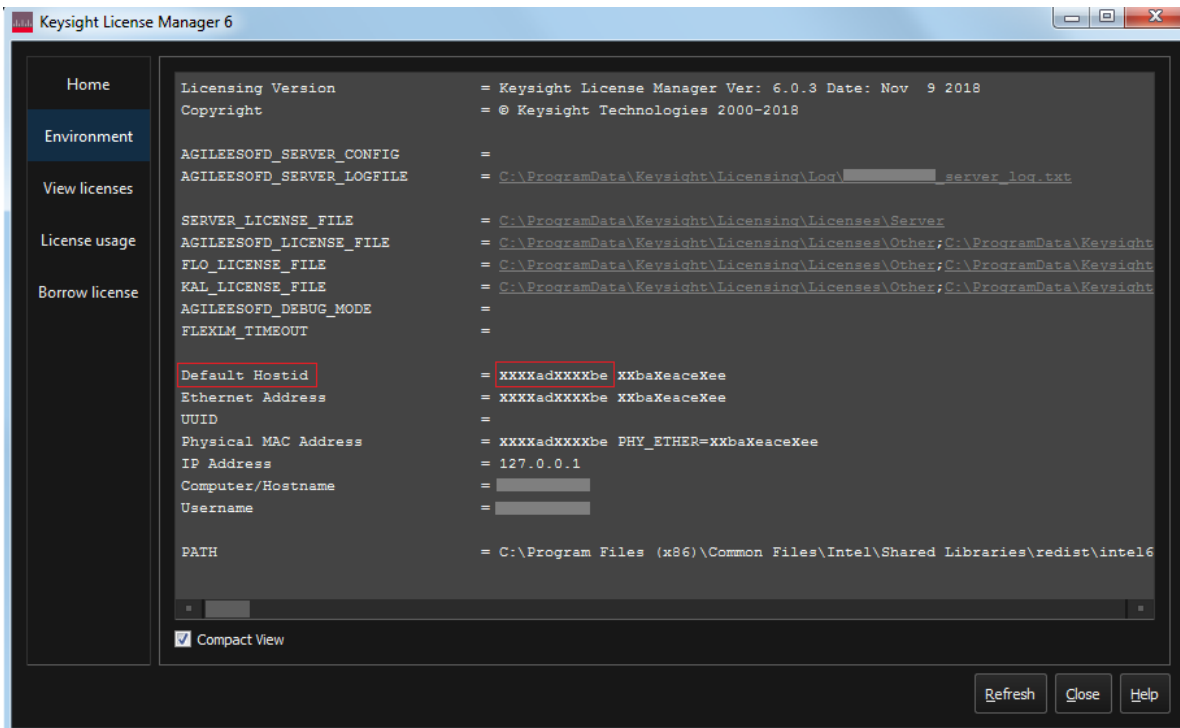

Figure 7 Viewing the Host ID information in KLM 6
- 2 Copy the Host ID, which is the first set of alphanumeric value (as highlighted in Figure 7) that appears in the Environment tab of the application. Note that x indicates numeric values.